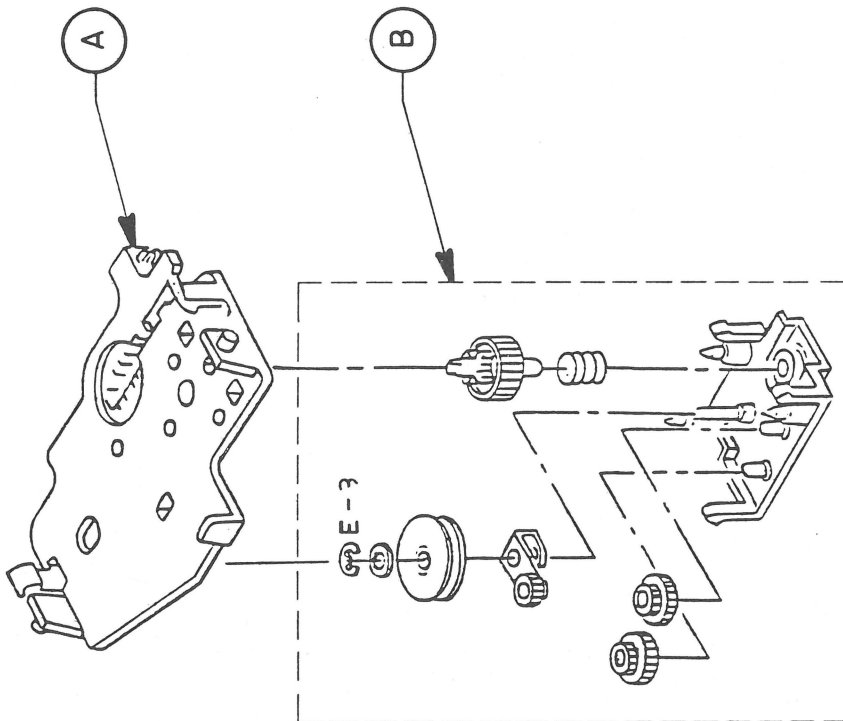

FIGURE 18
□ RIBBON FRAME ASSEMBLY (Figure 18)